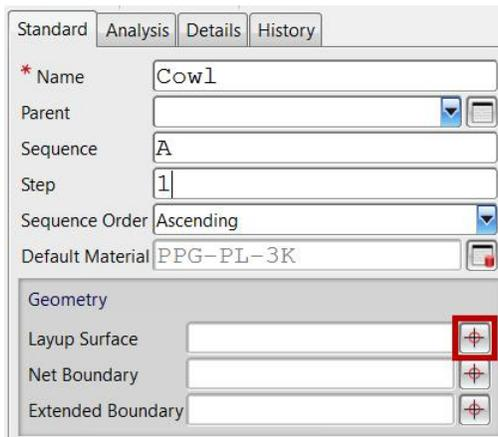

Figure 3–4
1. Next to the *Layup Surface* field, click  (Link Geometry) as shown in Figure 3–4.
2. In NX, select the surface as shown in Figure 3–5.